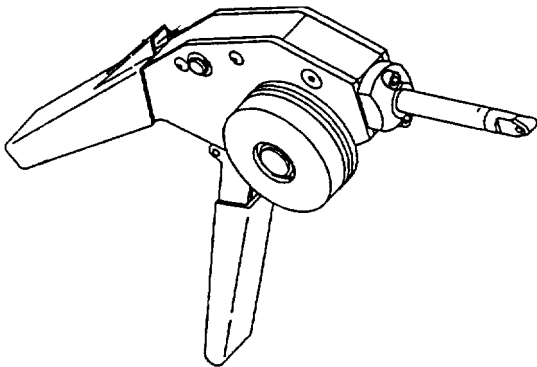

Figure 29. Safety Cable Application Tools
- d. The nose can rotate to any desired position (Figure 29).
- e. Insert the free end of the cable through the ferrule in the cartridge, and remove the ferrule by pulling the cable away from the end of the cartridge (Figure 29).
Do not release the free end of the cable until it has been inserted through the tool nose (Figure 29).